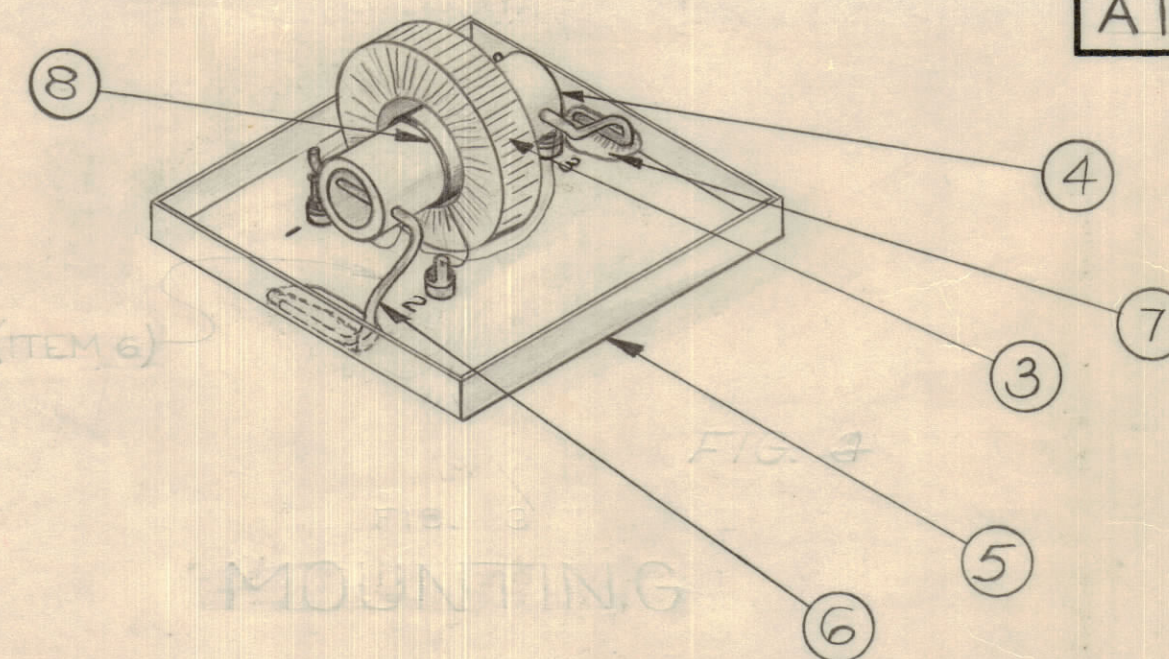

FIG. 4
- MOUNT AS PER FIG. 4 USE ENOUGH TAPE (ITEM 8) TO BUILD UP MOUNT (ITEM 4) TO FIT CORE SNUGLY.